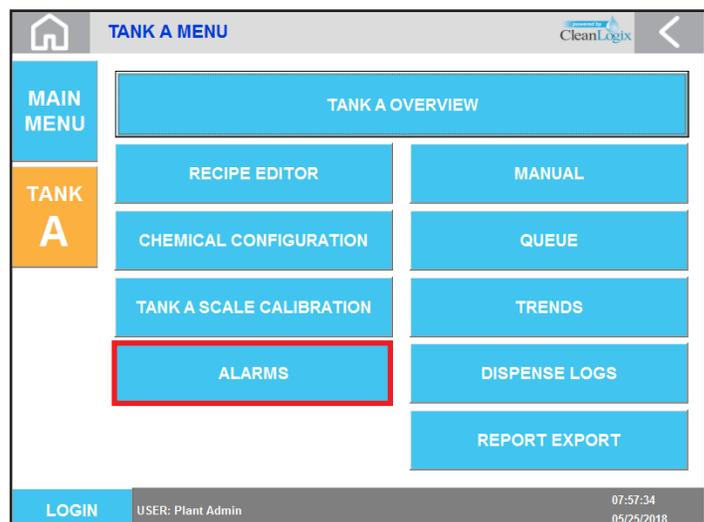

Figure 17.2: Tank A Menu - Alarms selection
2. Once the root cause of the alarm has been fixed, the alarm can be reset either by clicking the **RESET ALARMS** button on the alarm banner or by clicking **ALARM OVERVIEW** on the Tank Overview screen [Figure 17.2].